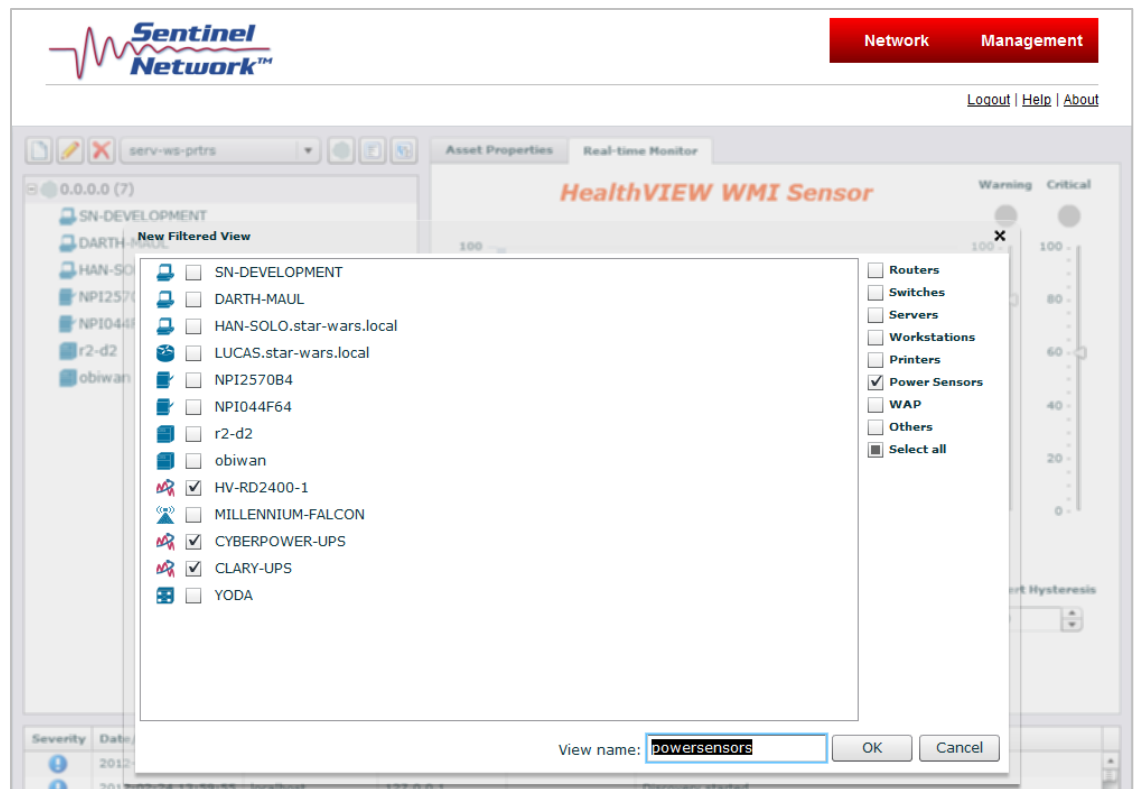

Figure 8: Filtering to view power sensors only
1. In the upper left corner, click the **Add View** icon to the left of the pencil (Edit view) icon. A window appears that is very similar to the commit assets window (Figure 8).
2. Clear the check boxes for the types of assets you don't want to see in this view, and leave one or more items checked, such as power sensors (as shown in Figure 8), or servers and workstations.